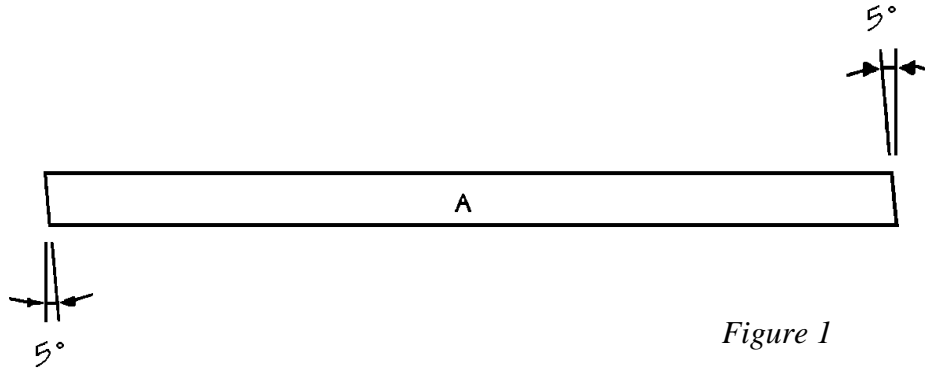

Figure 1
1. Cut eight Verticals (A) from 1 x 4 pine, each measuring 51 inches.
2. Miter each end of each Vertical (A) at a 5-degree angle, as shown in *Figure 1*.
3. Cut four Center Verticals (B) from 1 x 1 pine, each measuring 51 inches.